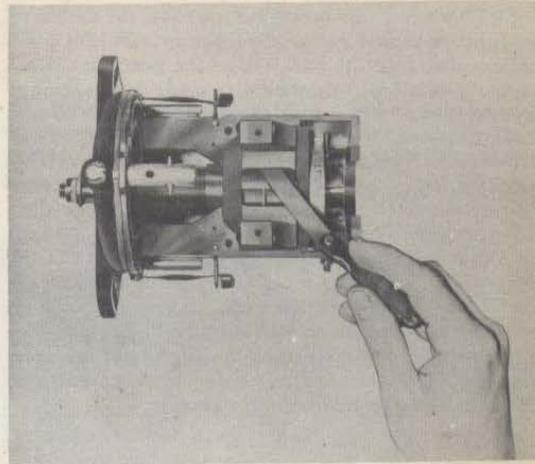

Figure 14—Checking Clearance Between the Rotating Magnet and the Pole Shoes
(5) Make sure the rotating magnet turns freely and does not bind at any place. Check the clearance between each pole piece and the pole shoes of the housing. The clearance must not be less than .0015 inch for any pole piece of the magnet. (See figure 14.)